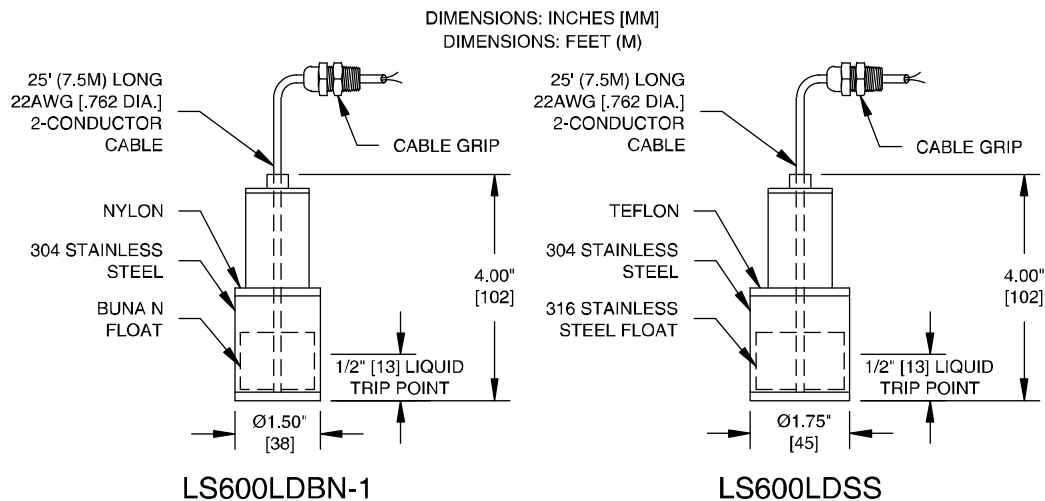

Figure 1-5 – LS600 LD Series
TMS4000 can be integrated with a variety of liquid sensors used for monitoring secondary containment areas around tanks and pipes. The maximum is 40 sensors depending on the overall job configuration; check the specific job design drawings for the actual number and type specified. Figures 1-5 through 1-8 show four (4) typical sensor types provided by Pneumercator with their most typical applications. Other non-Pneumercator models may be used; however, their use with TMS4000 should have been approved before attempting to wire them into the system.